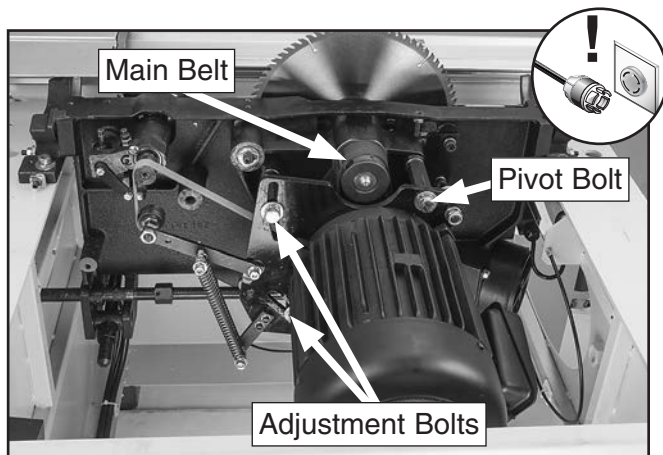
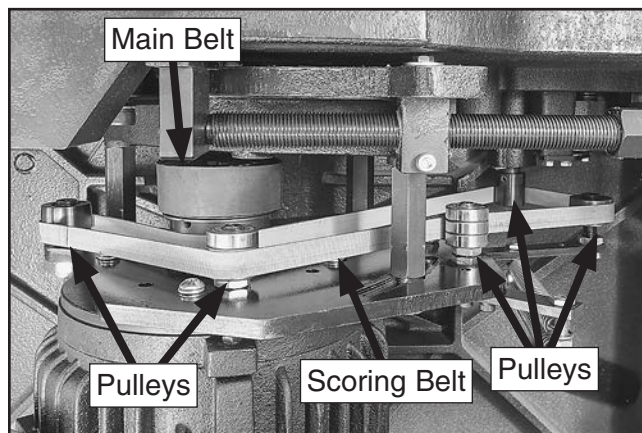

Figure 151. Locations of adjustment and pivot bolts (cast-iron table removed for clarity).
Figure 152. Scoring belt installed onto pulleys (cast-iron table removed for clarity).
3. Loosen pivot bolt and two adjustment bolts (see **Figure 151**).
6. Replace main belt (shown in **Figure 151 & 152**), then place scoring belt onto pulleys, as shown in **Figure 152**.
7. Loosen pivot bolt and two adjustment bolts (see **Figure 151**), and lower motor to apply proper belt tension (see **Tensioning Main Belt** on **Page 73**).